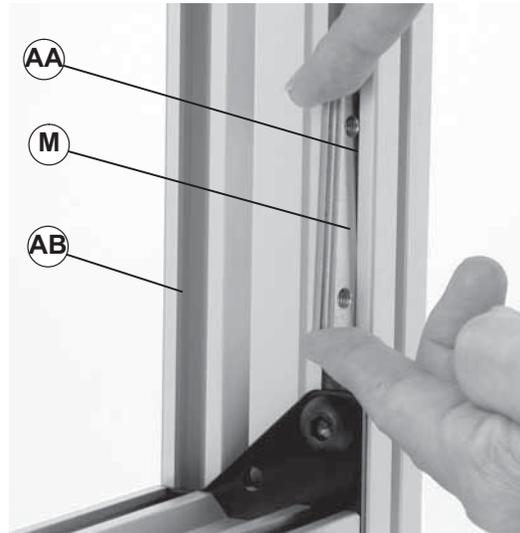

Figure 7
- a. Roll a 2 hole drop-in t-bar (Figure 7, item M) into an inside t-slot (AA) of the vertical stand leg (AB).
<p>Failure to secure screws (Figure 7, item Y) may cause conveyor sections to drop down causing severe injury.</p> <p>TIGHTEN SCREWS (Y) AFTER ADJUSTMENT.</p>